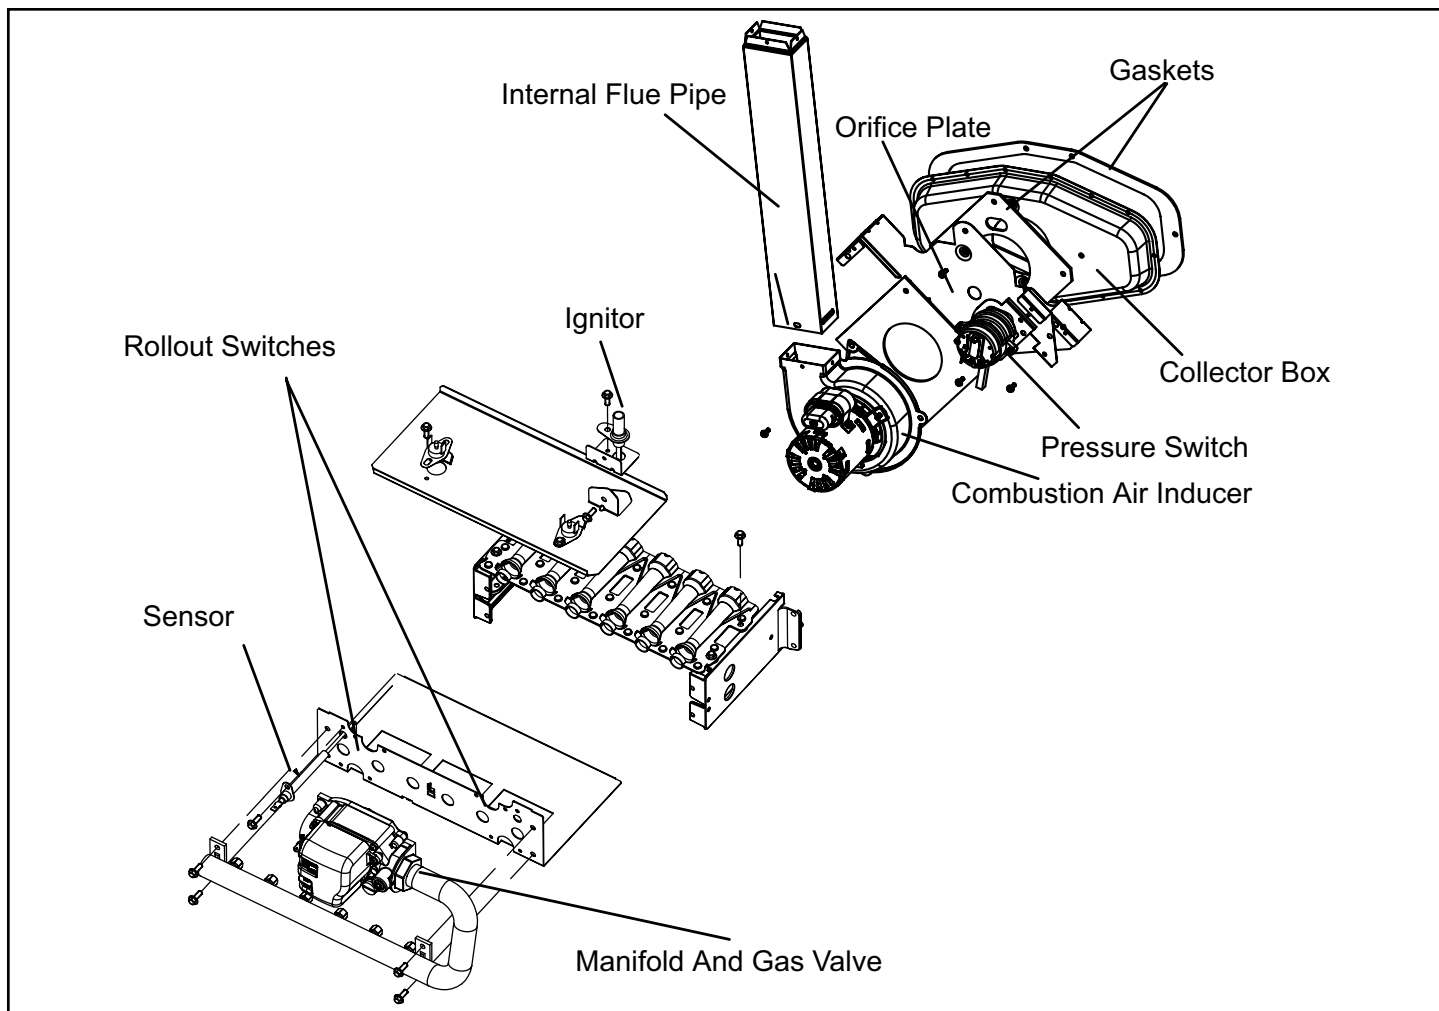

Figure 6. Heating Components
The hot surface ignition control system consisting of an integrated control (Figure 3 with control terminal designations in Table 1 through Table 3), sensor and ignitor (Figure 6). The integrated control and ignitor work in combination to ensure furnace ignition and ignitor durability. The integrated control, controls all major furnace operations. The integrated control also features a RED LED for troubleshooting and two accessory terminals rated at (1) one amp. See Table 4 or Table 5 for troubleshooting diagnostic codes. The nitride ignitor is made from a non-porous, high strength proprietary ceramic material that provides long life and trouble free maintenance.
Ignitor (Figure 6)
Flame Rollout Switches (Figure 6)
Flame Sensor (Figure 6)
Gas Valve (Figure 6)